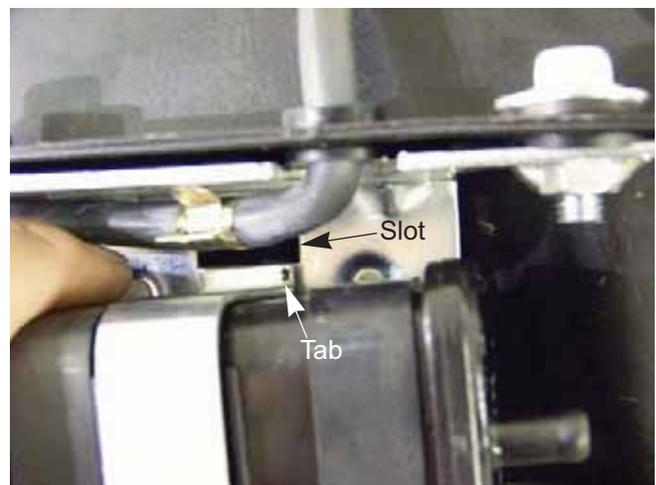

Figure 4.17
3. Insert the tab of the mounting strap into the slot in the fuel tank mounting bracket. See Figure 4.17.